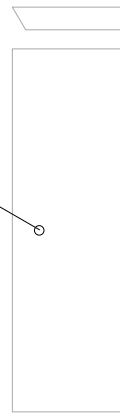

Fig. B3.03b
3. Using a Forstner bit \varnothing 42 mm, drill a hole **(60.2)** in the cut-to-size planking for opening the control hatch. (Fig. B3.03b)